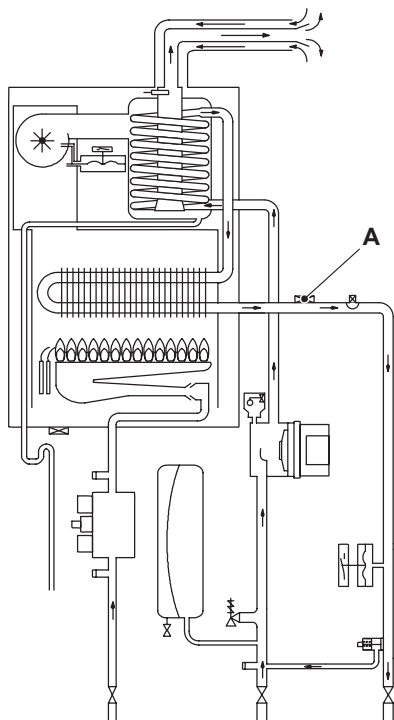
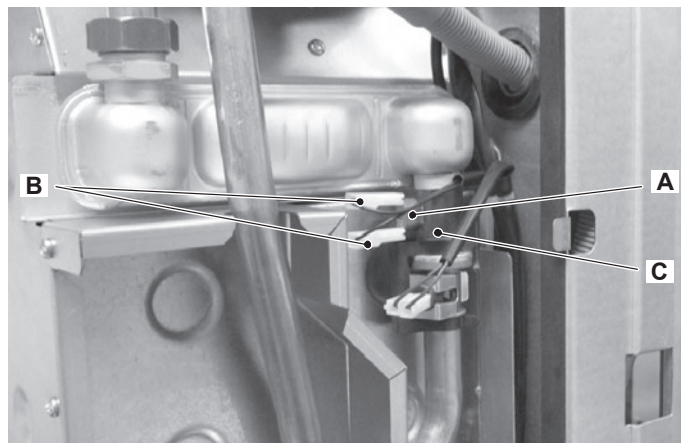

Figure 16.1
Figure 16.2
The safety thermostat A in Figure 16.1 and Figure 16.2 is a device that senses the temperature of the primary circuit water which flows in the outlet pipe of the primary heat exchanger. If the temperature control system of the boiler fails and the temperature of the primary circuit reaches a dangerous temperature, the safety thermostat opens the electric circuit that supplies the on-off operators of the gas valve. Consequently, the full sequence ignition device attempts to light the burner and, at the end, locks the boiler and lights the lock-out signal lamp.
- 2 Disconnect the wiring B (Figure 16.2).